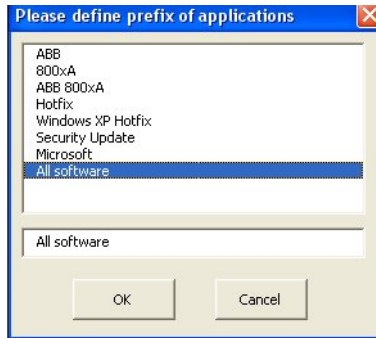

Figure 92. Create Node Application Relation
Figure 92 shows the selected Create Node Application Relation.
- Select the application to be compared and click **Ok**, see Figure 92.